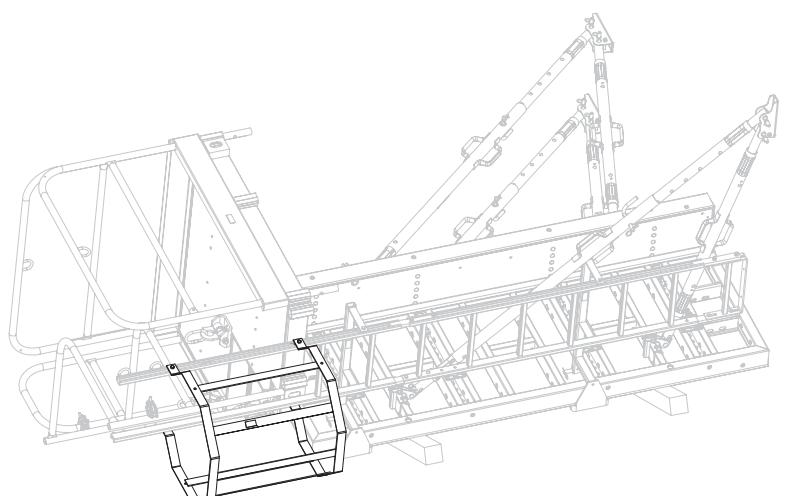

Fig. A3.08
- 4. Mount Ladder Safety Cage 75 or 150 with clamping plates according to the plan. Depending on the situation, mount with overlapping ladder joints. (Fig. A3.08)